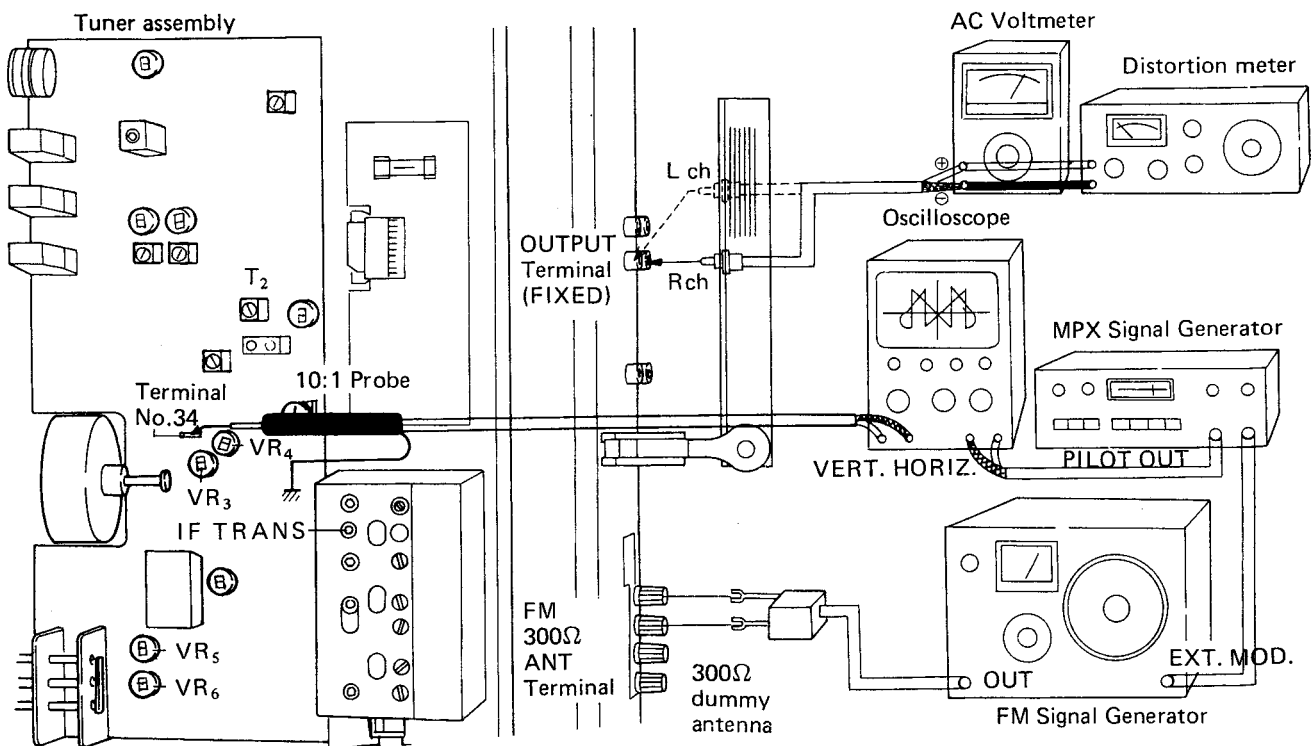

Fig. 14
1. Connect up the test instruments as shown in Fig. 14.